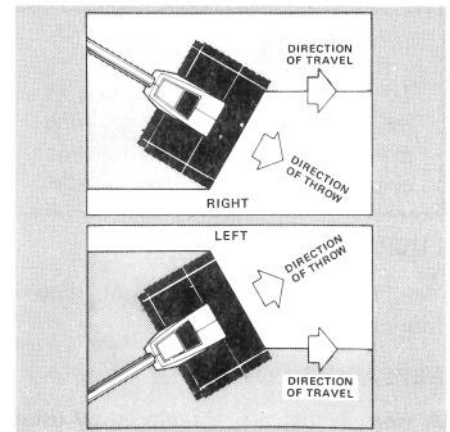

Figure 12
2. Direct the snow to the right or left by holding the Power Shovel at a slight angle (Fig. 12).